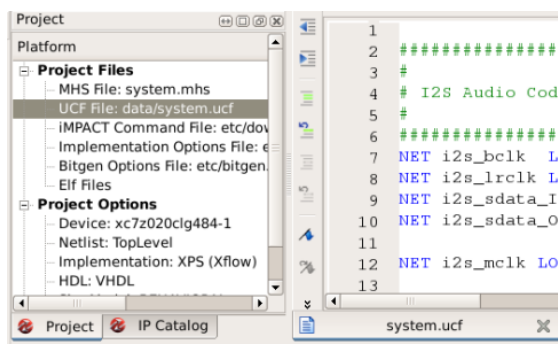

Figure 24. Open System UCF File
**I-20** The final step is to specify the pin numbers for `myled_0_LED_pin` to physically connect our customized IP core to the on-board LEDs. Double click UCF File: `data/system.ucf` as shown in Figure 24. Change the pin mapping according to Example 6.